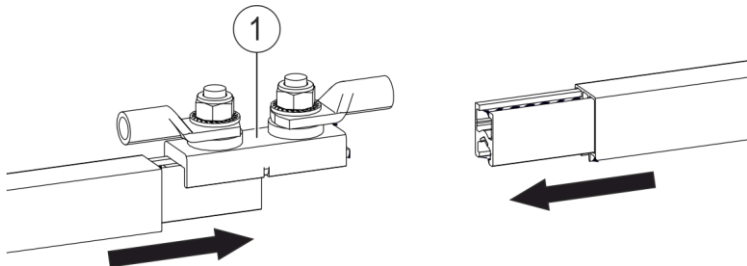

Fig. 84: Slide the conductor bar ends into the line feed connector
- Slide the each of rail ends of the conductor rail into the line feed connector (Pos. 1) (see Fig. 84).